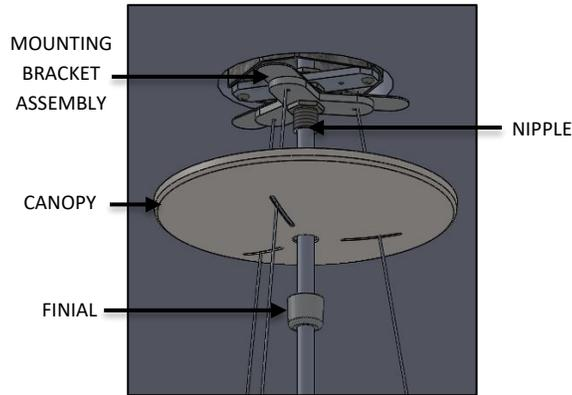

FIG. 19 – FINIAL INSTALLATION
9. Raise CANOPY and secure to ceiling by threading the FINIAL to the NIPPLE (available in MOUNTING BRACKET ASSEMBLY) as shown below in FIG. 19.